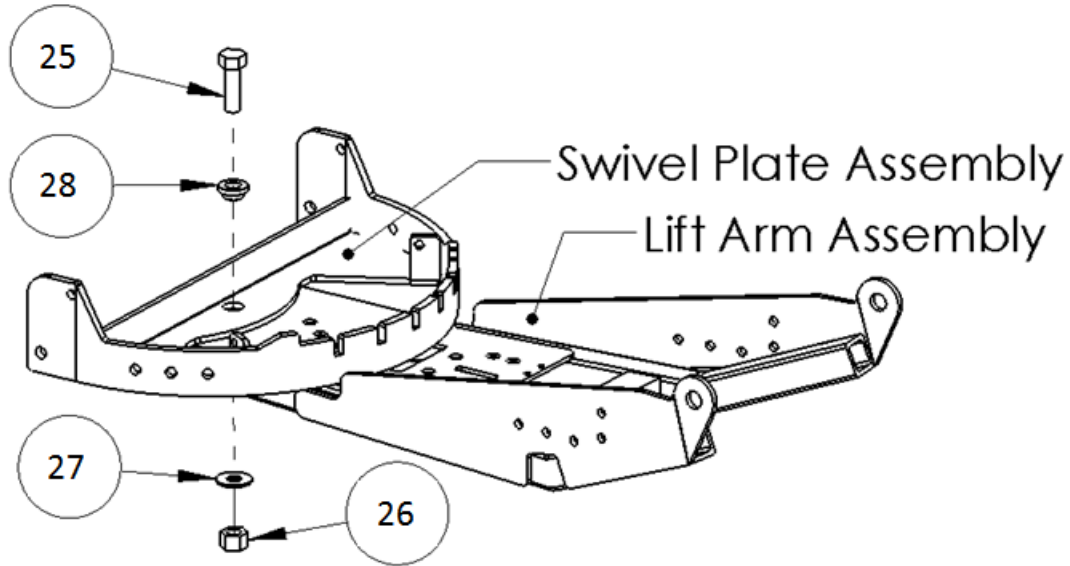

Figure 6
- 6) Connect the Swivel Plate Assembly to the Lift Arm Assembly via the 5/8" Bolt (#25), Washer (#27), Nylock Nut (#26) and Pivot Ring (#28) shown in **(Figure 6)**. Tighten the 5/8" hardware securely but do not over tighten such that the swivel plate no longer moves side to side.